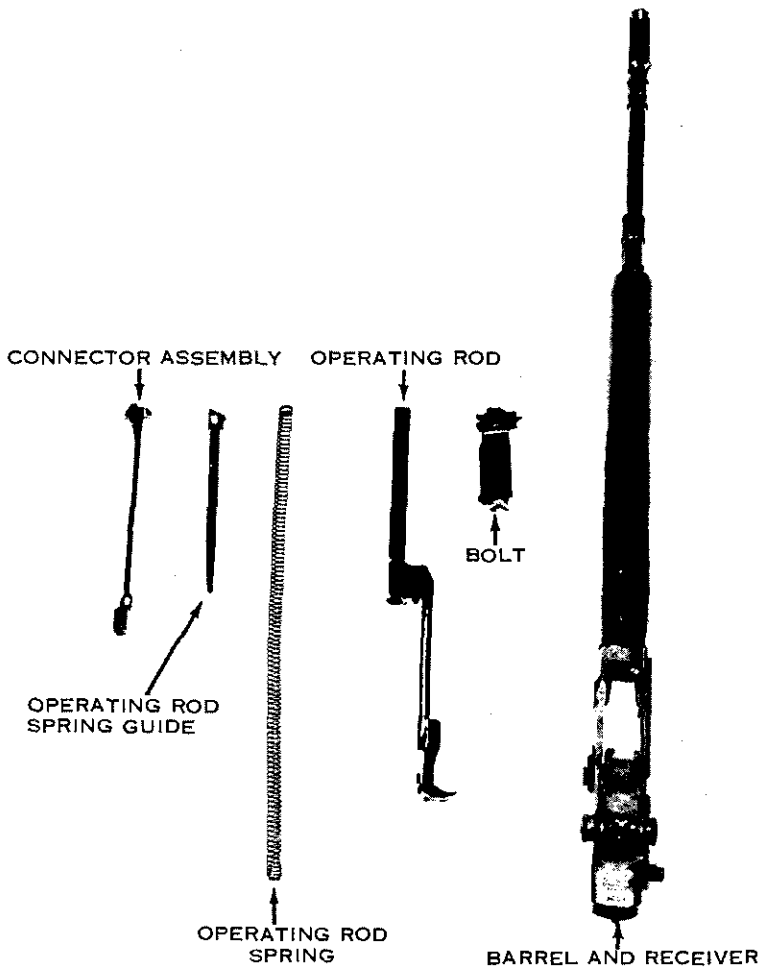

Figure 10. Parts of the barrel and receiver group in the order of disassembly.
- (4) *Removing the bolt.* Grasp the bolt by the roller and, while sliding it forward, lift it upward and outward to the right front with a slight rotating motion.
c. The parts of the barrel and receiver group in their order of disassembly are shown in figure 10.